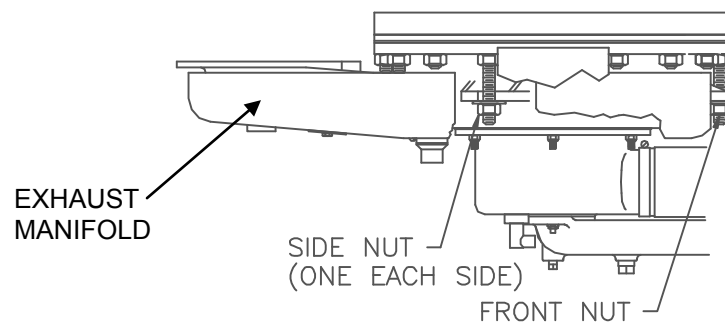

Figure 6.16
21. Loosen the three 1-1/16" nuts that hold the manifold. Remove the two side nuts. **DO NOT REMOVE THE FRONT NUT**, (See Fig. 6.16).